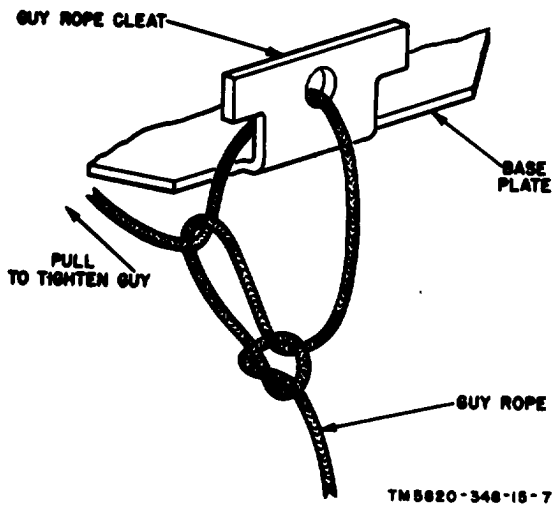
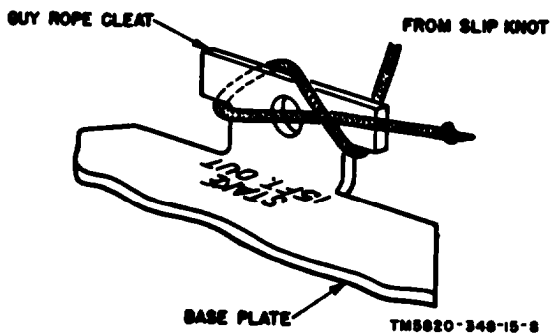

Figure 2-4. Slip knot for tightening guy rope.
Figure 2-5. Hitch for securing end of guy rope.
knots as shown in figure 2-4. When tied in this manner, each guy rope can be pulled as taut as desired and can be secured with a simple hitch (fig. 2-5). The guy rope can be readily released.
c. Pull the guy ropes taut and secure them with a hitch (fig. 2-5).
b. Move the mast 90 degrees clockwise from the first stake (fig. 2-9). Secure the guy ropes to the baseplate (fig. 2-5).
f. Adjust and tighten all guy ropes. Secure each guy rope to the baseplate (fig. 2-5).